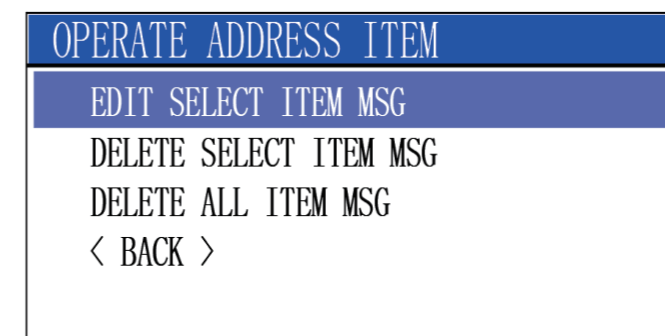

Figure6.3.1
- b: Rotate the [CHANNEL] knob to select the entry you want to edit, and press the [ENT] key to open the entry operation dialog, as shown in Figure 6.3.1.